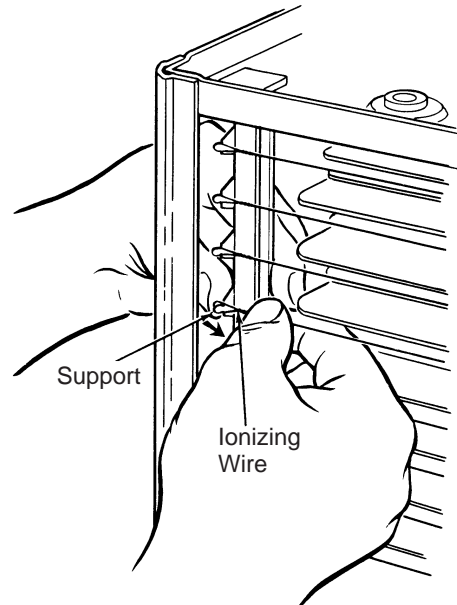

Figure 21
3. Hold your finger against the support at the other end (Figure 21) and hold the ionizing wire between thumb and forefinger as shown or use needle nose pliers. Press inward on spring support. Hook end of wire over small tab at end of support and release. Make sure wire is securely anchored at each end.